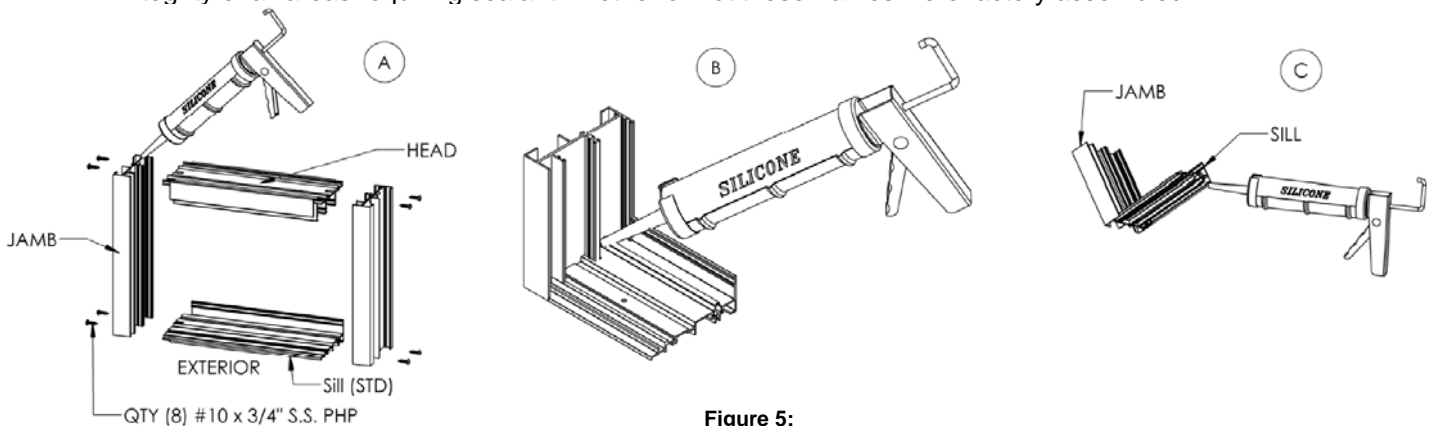

Figure 5:
1. Add sealant to the upper corners of the jamb(s) and to the end of the head that is compatible to the entire assembly as shown in Figure 5, detail A.